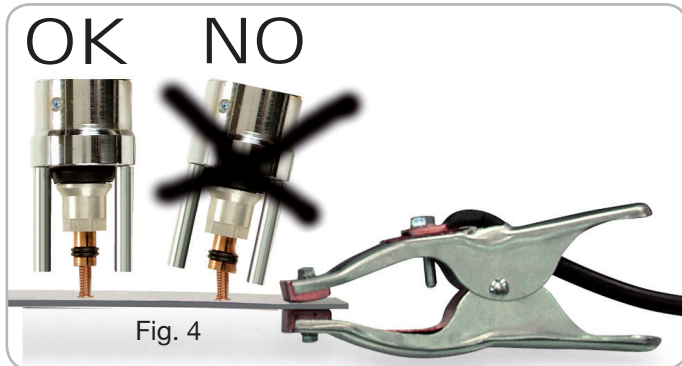

Fig. 4
- The gun should be removed keeping it perfectly aligned with the bolt, to avoid deforming the clamp (Fig4).